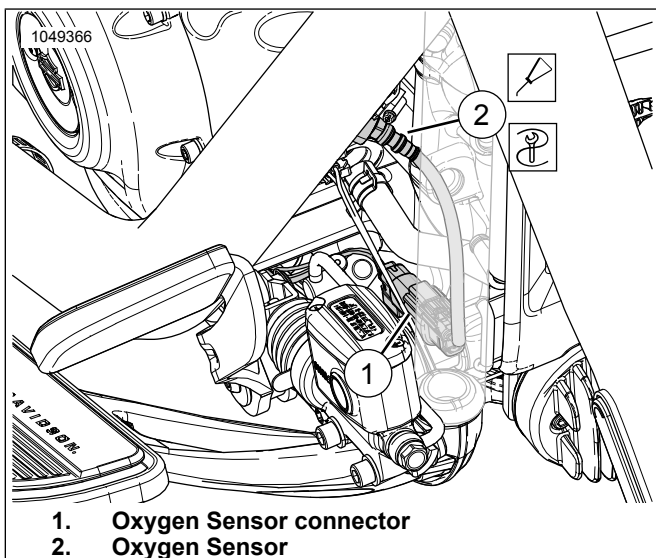

Figure 21. Front Oxygen Sensor
See Figure 21. Disconnect front oxygen sensor connector (1) from main harness.